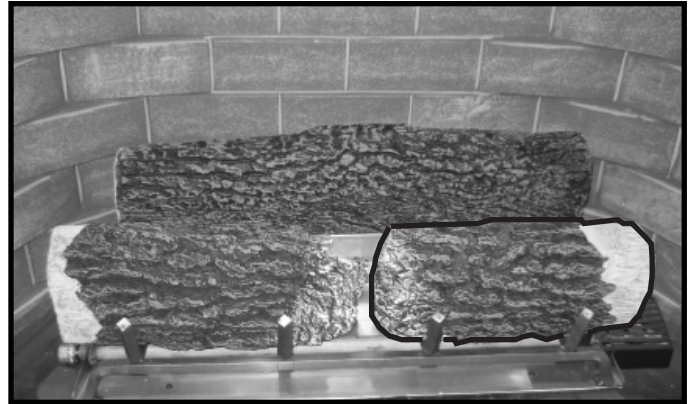

Figure 4.5 Place Right Front Log
- Place right front log on the grate against the front of the grate. Fit notches into the bottom of the log to position it as shown in Figure 4.5.